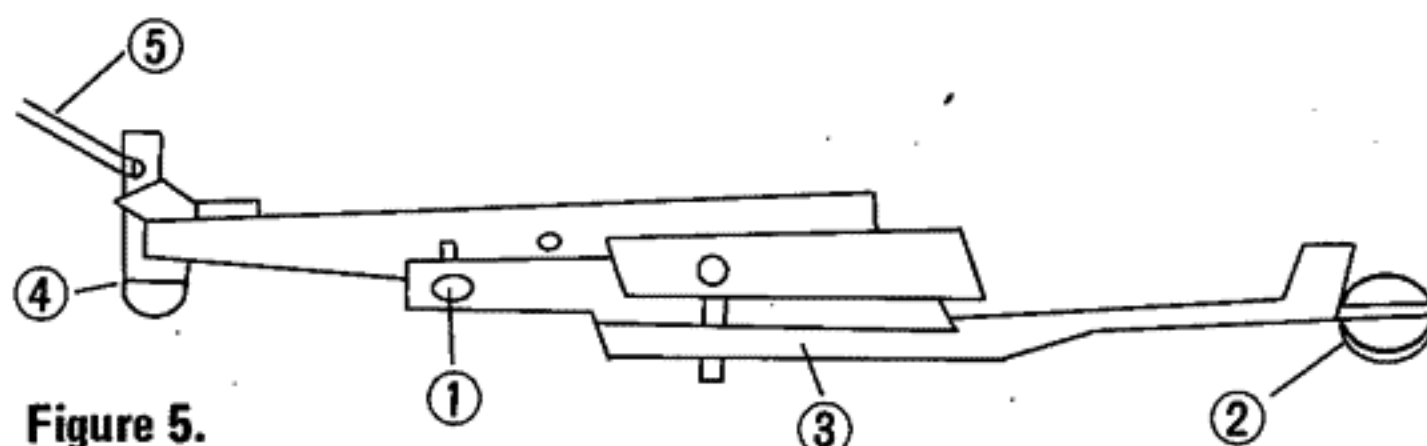

Figure 5.
The height adjustment is effected by means of the eccentric pin ② in Figure 5. The arm is raised by turning ② clockwise and lowered by turning it counterclockwise. However, the position of the arm will lower suddenly at a certain position since the height is adjusted by means of the eccentric pin. (For clockwise revolution)
The height adjustment is effected by means of the adjusting screw ① in Figure 5. The arm is lowered by turning ② clockwise and heightened by turning it counterclockwise. The adjusting screw ① has no relation to the height of the arm during full automatic operation. Therefore, note that when the adjusting screw is turned counterclockwise (when the height of the arm has been increased), the return time of the cue rod assembly (lifter bar) from the "UP" position to the "DOWN" position may be shortened. After completing the adjustment, apply paint to the adjusting screw and the eccentric pin.
- ① Adjusting screw
- ② Eccentric pin
- ③ Elevation receiver assembly
- ④ Cam holder assembly
- ⑤ Que rod assembly